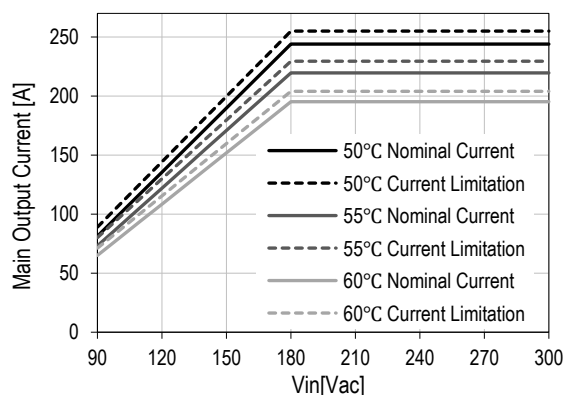

Figure 20. Derating on  $V_1$  vs  $T_a$  &  $V_{in}$
4) See Figure 20 for linear derating > 50°C
The main output current limitation level  $I_{V1\ lim}$  will decrease if the ambient (inlet) temperature increases beyond 50 °C (see *Figure 20*). Note that the actual current limitation on  $V_1$  will kick in at a current level approximately 10A higher than what is shown in *Figure 20* (see also section 9 for additional information).